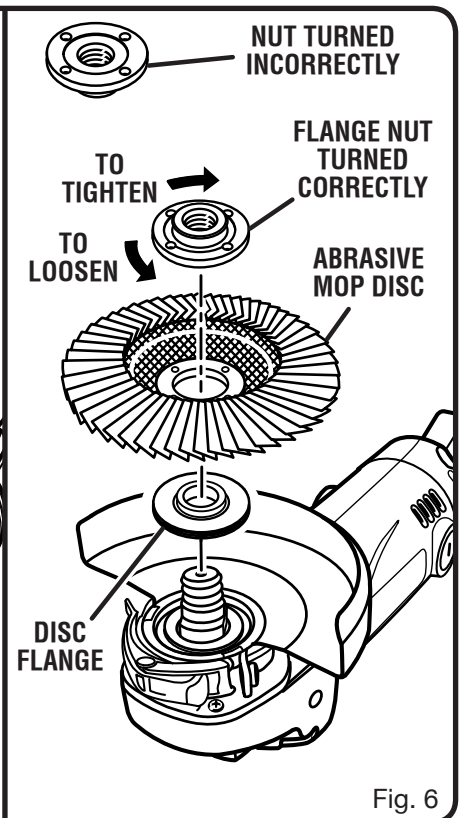

Fig. 6
- To install abrasive mop disc, thread the flange nut on the spindle with the flat side of nut facing down. Finger tighten. *See figure 6.*